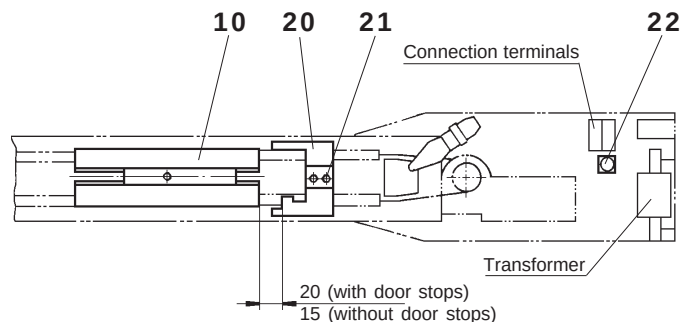

Fig. 9
- Adjust the stop piece for the open position (20) in the drive unit. Slightly loosen the screws (21) and push the stop piece until it meets the sliding carriage (10). Then retract the stop piece by approx. 5 mm (measure 20) and tighten the screws (21). Fig. 9
- If there are no fixed door stops, the stop piece (20) is fastened without any play between the sliding carriage (10) (measure 15). Fig. 9
- If the setting-up procedure has not been correctly carried out or in the event of a malfunction, this procedure can be repeated by pressing the RESET key (22) (blue button) during at least 2 sec. while the mains supply is switched on. Fig. 9